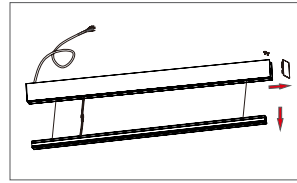

FIGURE 4-1
- I. For Start-of-Run, remove the end cap without the power cord and remove LED module. (Figure 4-1)